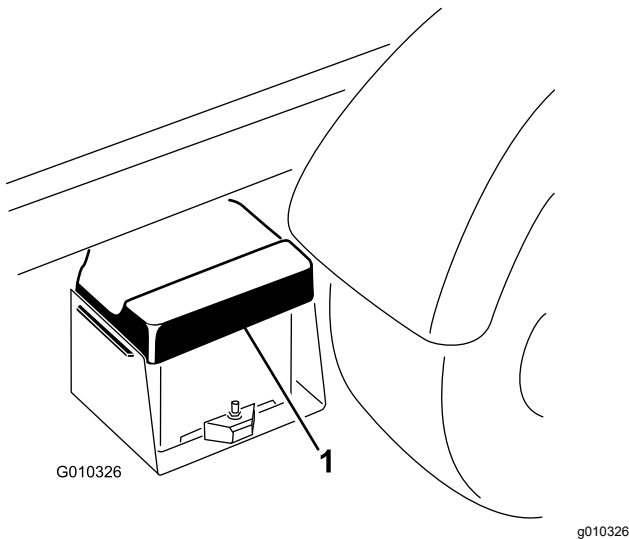

Figure 50
1. Squeeze the battery cover to release the tabs from battery base, and remove the battery cover from the battery base (Figure 50).